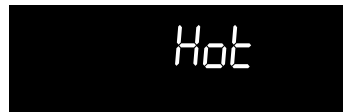

Fig. 3
- The time of day and "**Hot**" will appear in the display window (See Fig.3).